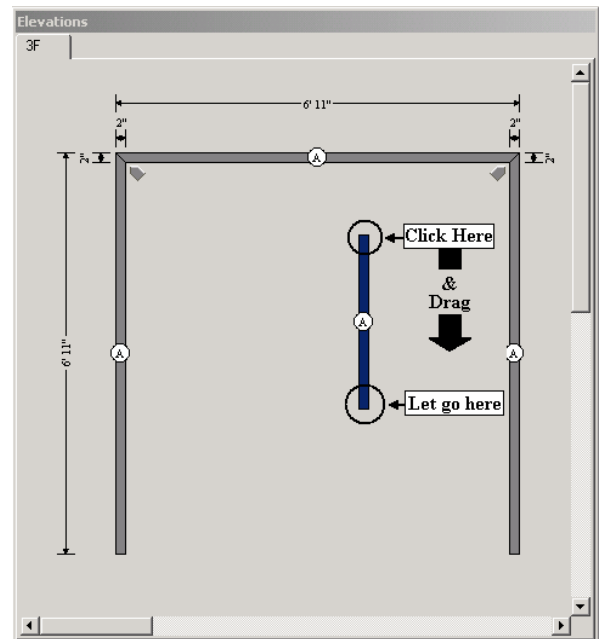

Figure 12
2. By now, you should be familiar with creating frame members by clicking on the drawing surface and dragging the mouse. Inside the three-sided frame, create a vertical frame member as the mullion. See figure 12.